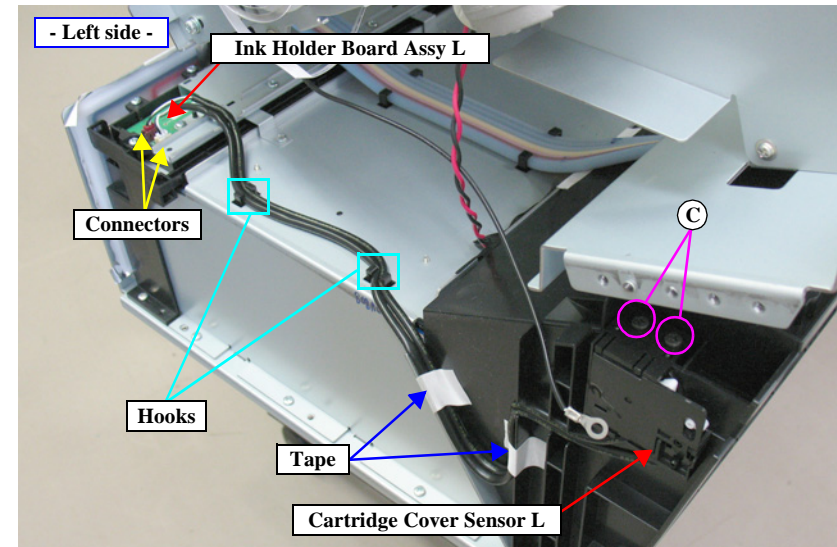

Figure 4-46. Removing the Cartridge Cover Sensor L
9. Release the harness from the two hooks and the tape. *See Figure 4-46.*